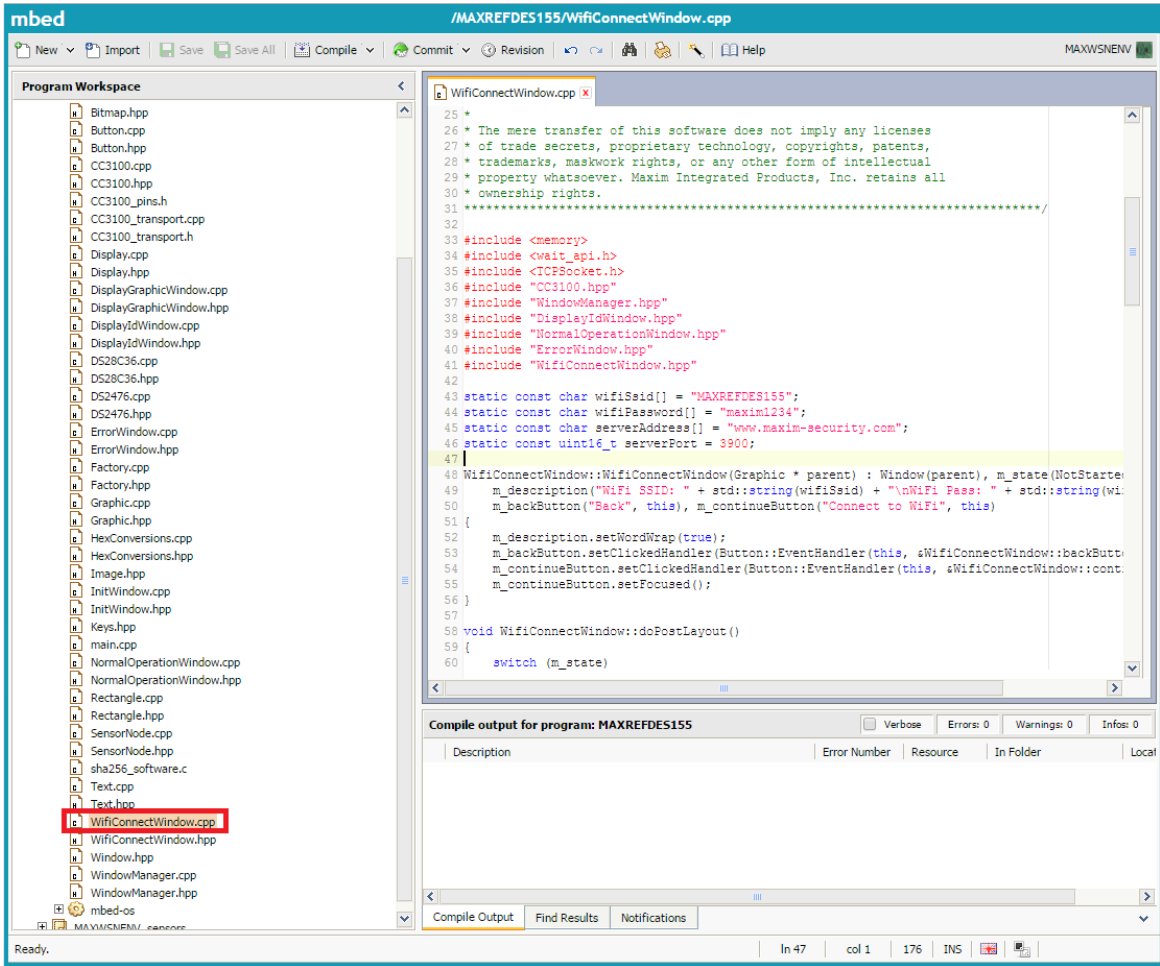

Figure 4. Open the Wi-Fi connect source file.
3. Open the source file **WifiConnectWindow.cpp** in the imported copy of **MAXREFDES155** (Figure 4).